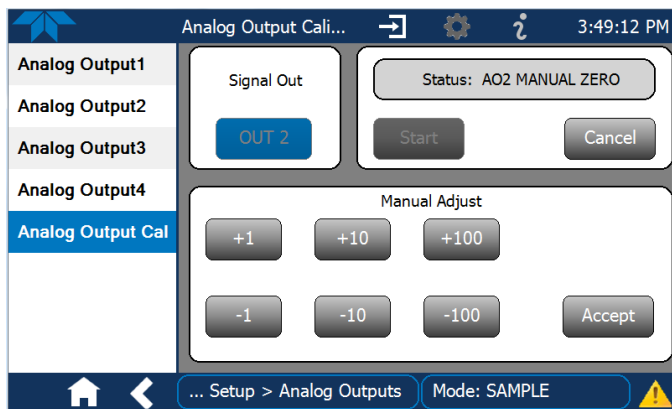
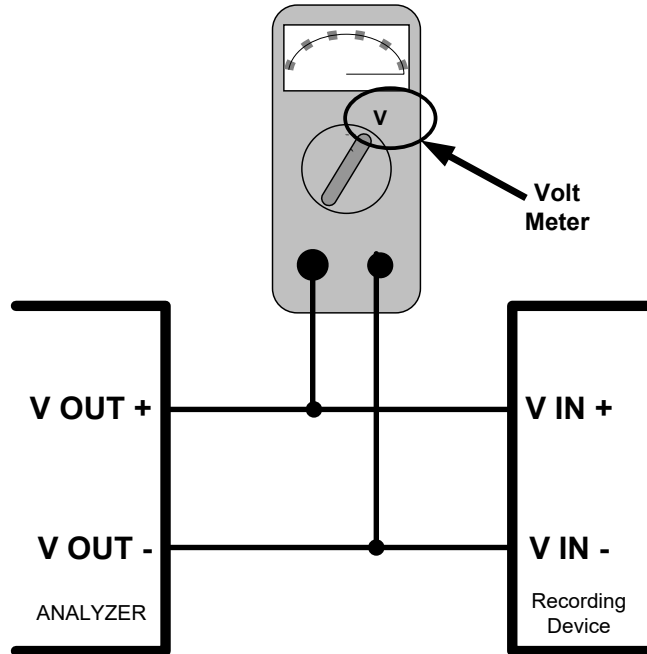

Figure 2-49. Analog Outputs Manual Calibration Screen (AO2 Example)
Figure 2-50. Setup for Checking / Calibrating DCV Analog Output Signal Levels
- MANUAL for individual calibration (Figure 2-49) of analog outputs where manual adjustments can be made (the only calibration type allowed when Current is selected for the Range). See Sections 2.5.8.1 and 2.5.8.2 .
It is possible to manually calibrate the voltages by using a voltmeter connected across the output terminals (Figure 2-50) and changing the output signal level in the Manual Adjust field of the Analog Outputs Calibration screen (Figure 2-49). Refer to Table 2-11 for voltage tolerances.